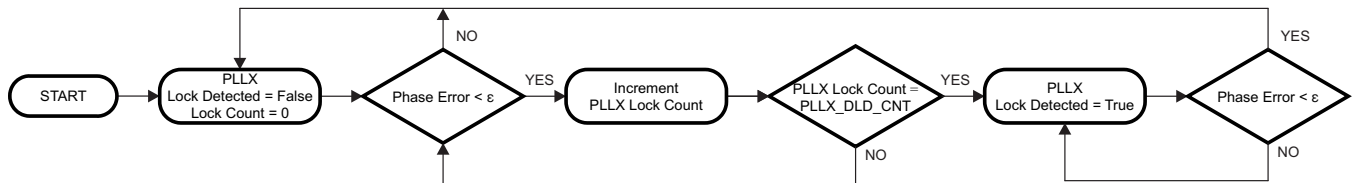

Figure 5-5. Digital Lock Detect Flowchart
Both PLL1 and PLL2 support digital lock detect. Digital lock detect compares the phase between the reference path (R) and the feedback path (N) of the PLL. When the time error, which is phase error, between the two signals is less than a specified window size ( $\epsilon$ ) a lock detect count increments. When the lock detect count reaches a user specified value, PLL1\_DLD\_CNT or PLL2\_DLD\_CNT, lock detect is asserted true. Once digital lock detect is true, a single phase comparison outside the specified window will cause digital lock detect to be asserted false. This is illustrated in Figure 5-5.